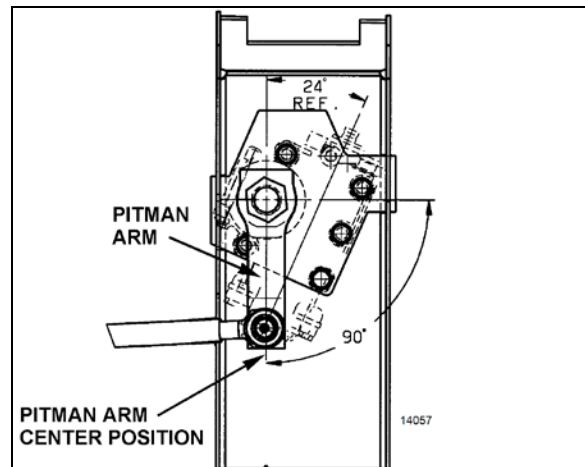

FIGURE 19: IFS PITMAN ARM ADJUSTMENT
2. Using a protractor, check the angle of the pitman arm (refer to Figure 19 & Figure 19 for details).